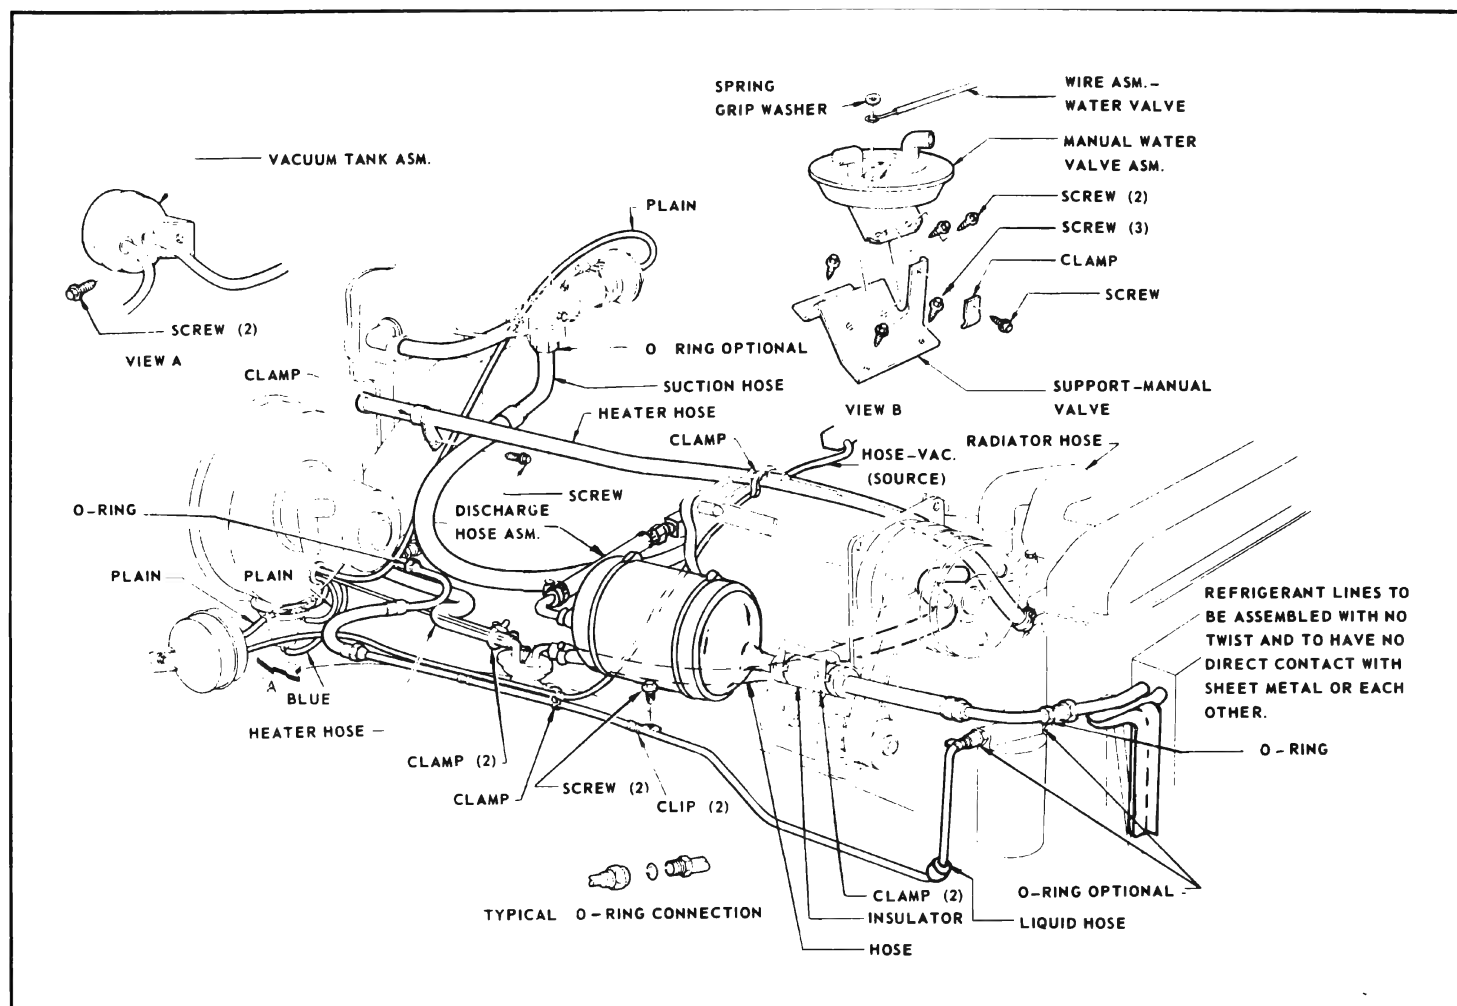

Figure 11-89—Main Vacuum Switch Adjustment - 4400, 4600 and 4800 Series
2. Main Vacuum Switch Adjustment - Place AIR lever in off position. Loosen main vacuum switch attaching screws and push switch against control lever on circuit control assembly to fully depress plunger. Tighten mounting screws. See Figure 11-89.